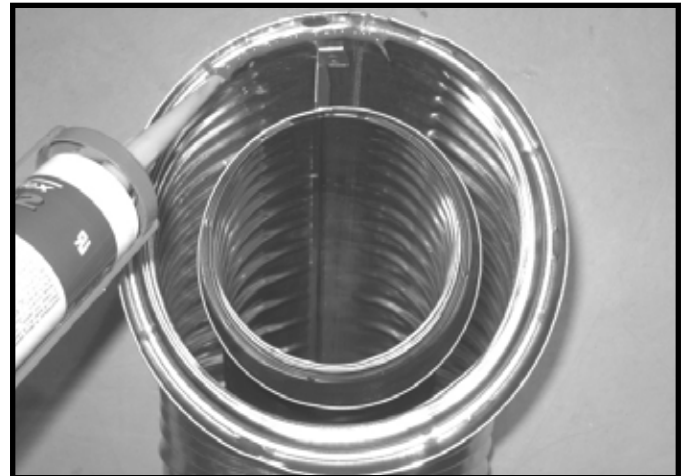

Figure 7.1 High Temperature Silicone Sealant
- Apply a bead of silicone sealant (300 °F minimum continuous exposure rating) inside the female outer pipe joint prior to joining sections. See Figure 7.1. **OR** Apply a bead of silicone sealant (300 °F minimum continuous exposure rating) to the outside of connecting joint after joining sections **OR** Apply aluminum foil tape (300 °F minimum continuous exposure rating) to the outside of connecting joint after joining sections. On horizontal pipe runs, it is recommended that the tape seam is positioned on the bottom side of the vent pipe.